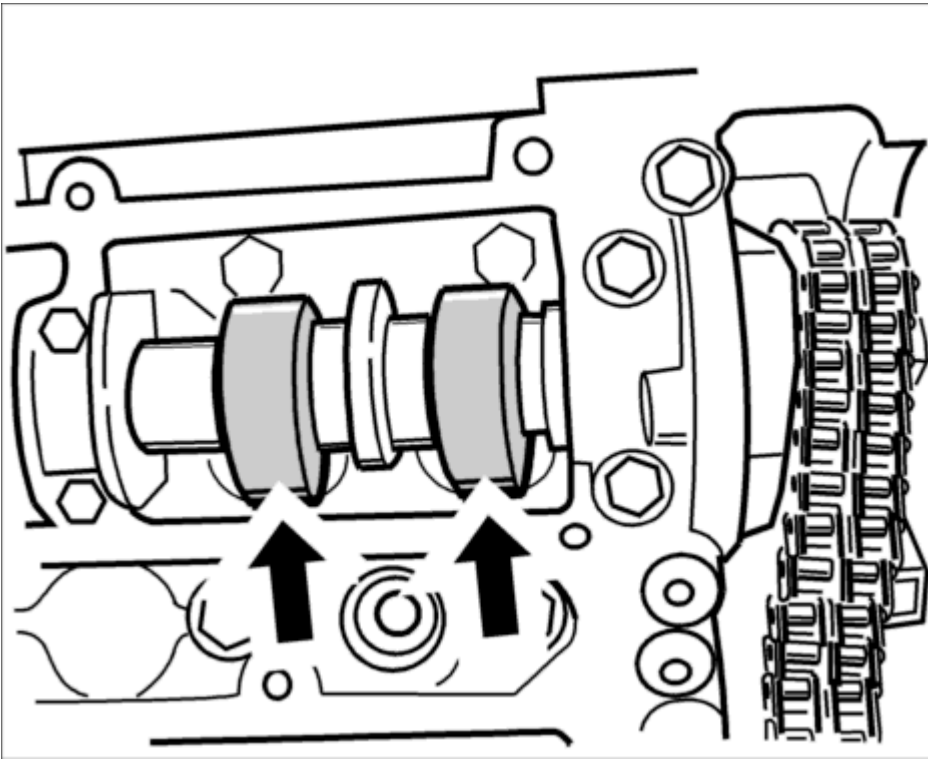

Fig. 27: Exhaust camshaft 4 - 6
6. Insert exhaust camshaft 4-6. Lay the timing chain on the flange for the sprocket, then insert the camshaft at overlapping TDC of cylinder 4 (the outlet cams of cylinder 4 point towards the cams of the inlet camshaft - **arrows-**). See **Fig. 27**.